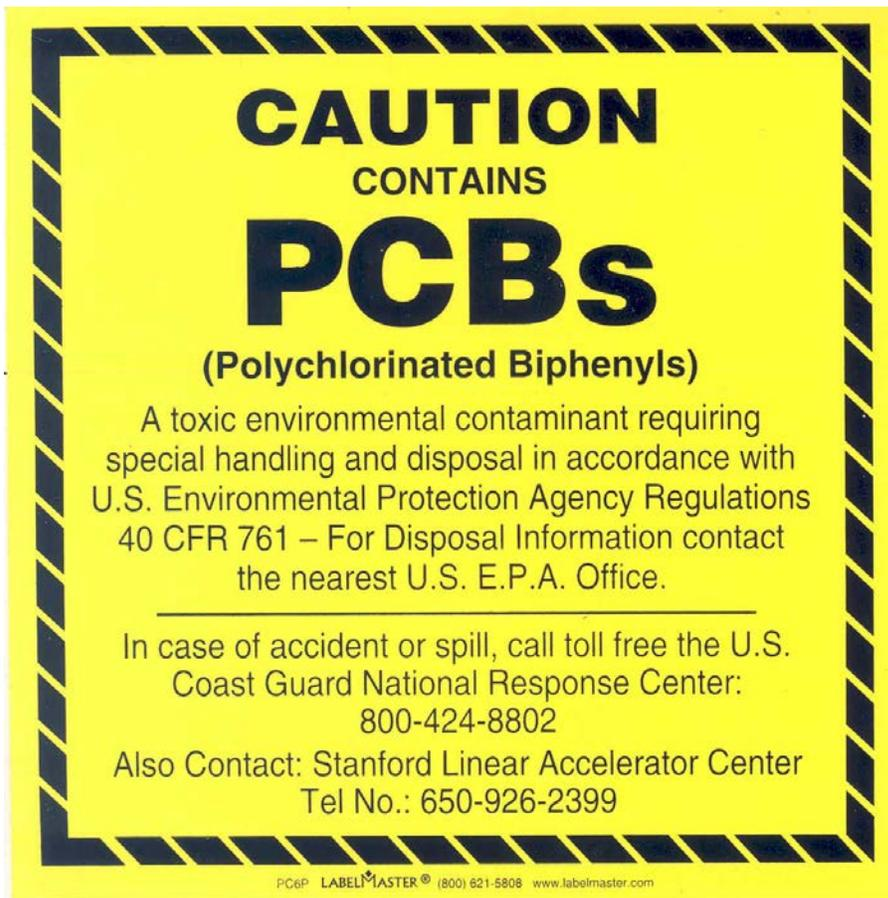

Figure 1 Yellow Label Used to Identify PCB Items
1. Items containing a PCB concentration of 500 ppm or greater must be labeled as *PCB*, using a yellow label with black lettering (see Figure 1).
- The delivered container must be marked with both hazardous waste and yellow PCB labels above (Figure 1).
PCB-contaminated waste must be labelled with the yellow label above (Figure 1), regardless of concentration. The primary SLAC waste that contains PCBs is fluorescent light ballasts, but this label is also used for PCB containers that hold such waste as soil, oil, and wipes that have been used to clean a PCB-related spill.